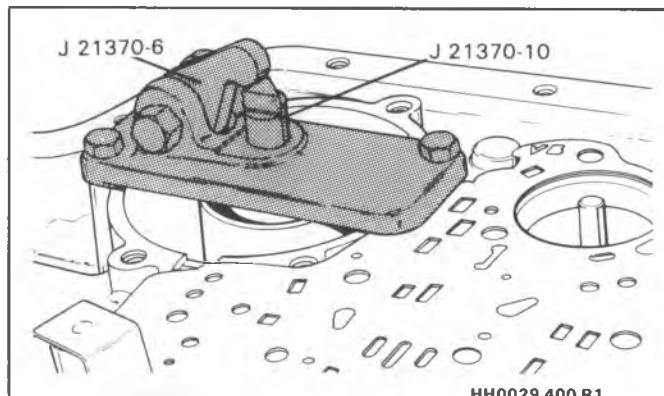

Figure 86 - Installing Servo Pin Gage
► Measure (Figures 86, 87 and 88)